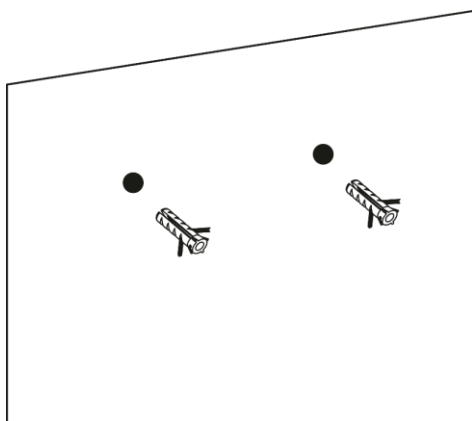

Fig. 09
- 05) Insert anchors into the drilled holes (Fig. 09). Do not perform this step when mounting the device to a wooden wall.